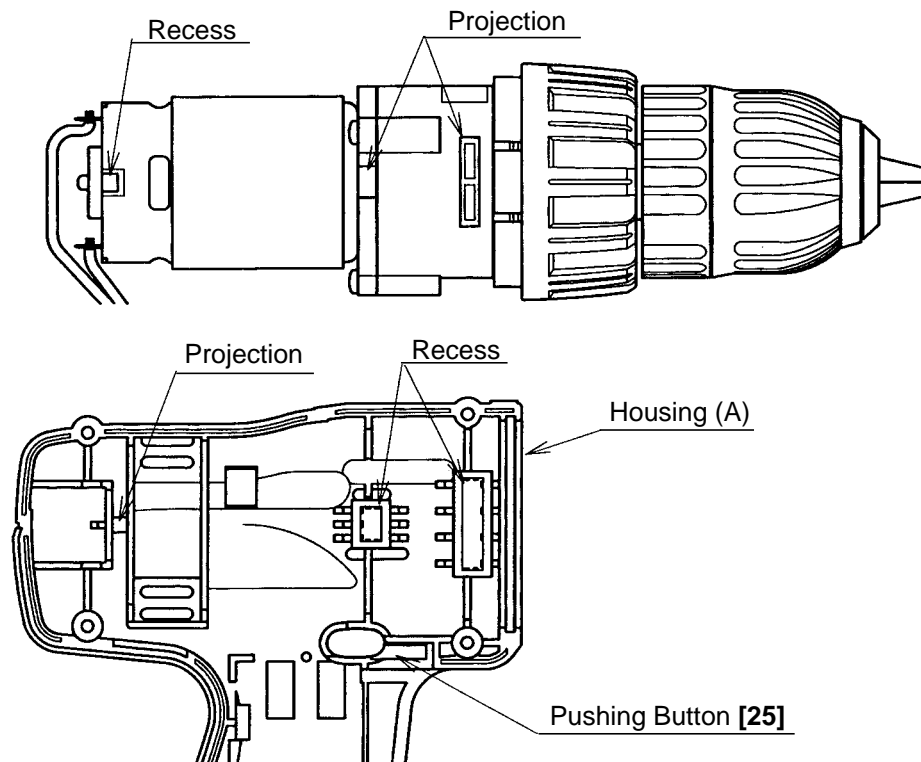

Fig. 11
- (7) Reassembly of main body (See Fig. 11.)
- (a) Install the Pushing Button **[25]** into Housing (A).
- (b) Install the assembly reassembled in step (5) into Housing (A).